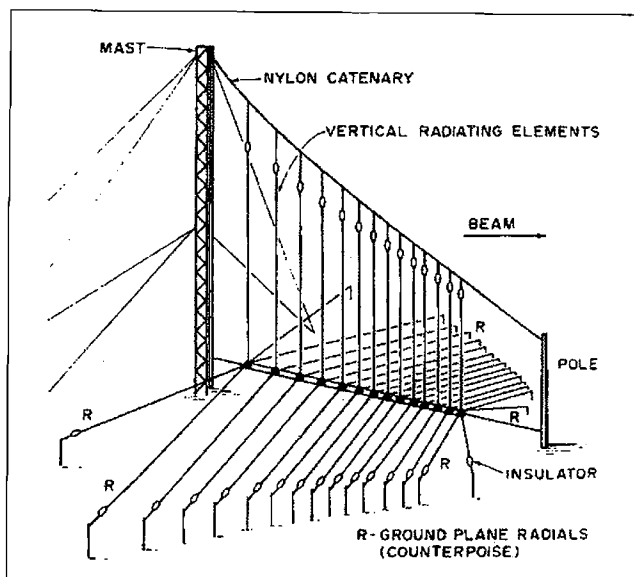

Fig. 2. Vertical monopole log periodic — 2:1 bandwidth.
2) The vertical monopole log periodic working against ground or a ground plane counterpoise. Fig. 2 illustrates this type, also covering a 2:1 bandwidth.